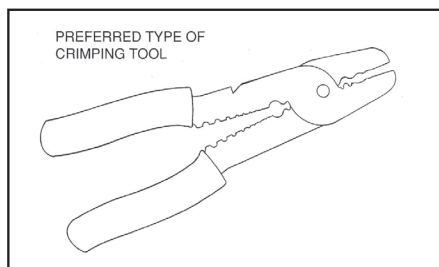

Fig. 5
- ☐ Electrical stripping and crimping tool (See Fig. 5)
- E) Install the new terminals onto the wiring if the originals were clipped off. The large terminal is the positive terminal, while the small one is the negative terminal. Verify that you are installing them properly because if they are reversed the pump will run backwards and will not pump. Strip the wire insulation back 1/4" and install the terminals. Using the illustrated preferred type of crimp tool (See Fig. 5), crimp the terminals in place. Verify that the terminals are securely attached and will not come off.